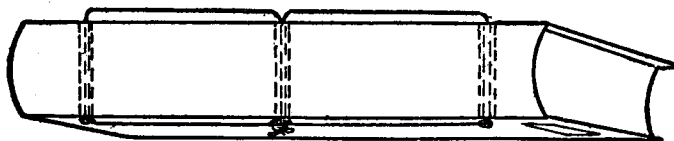

FIG 2
4. Hold the brass strips apart by means of the hard rubber strip and screws. Do not let the screws come all the way through the rubber strip or you are liable to get a shock in case you should touch both screws simultaneously. Screw a rubber handle onto the rubber strip to move the lever back and forth with. Fig. 2 shows the arrangement of strips, handle, screws, etc., in detail. Fig. 3 is an end view of the same. --Contributed by Eugene F. Tuttle, Jr., Newark, Ohio.
the binder and use the shoestring to complete as in Fig. 2.
A 2-in. shaft of wood, Fig. 2, is turned down to 1 in. on the ends and put through holes that must be bored in the front ends of the 2 by 6-in. pieces. A small pin is put through each end of the shaft to keep it in place. The rudder is a 1-1/2-in. hardwood piece which should be tapered to 1/2 in. at the bottom and shod with a thin piece of iron. A 1/2-in. hole is bored through the center of the shaft and a lag screw put through and turned in the rudder piece, making it so the rudder will turn right and left and, also, up and down. Two cleats are nailed to the upper sides of the runners and in the middle lengthways for the person's heels to rest against.
Theoretically a simple microscope can be made as powerful as a compound microscope, but in practice the minute size required by the simple lens to give the highest power makes it almost impossible to be used. However, a lens having a reasonable magnifying power can be made in a few minutes for almost nothing. Take a piece of glass tubing, heat one place in a hot flame, hold one end and pull on the other and draw the heated place down to a fine string as shown in Fig. 1. Take about 3 in. of this fine tube and heat one end which will form a glass bead as shown in Fig. 2. This bead is the lens. When in this form it can be used only in an artificial light coming from